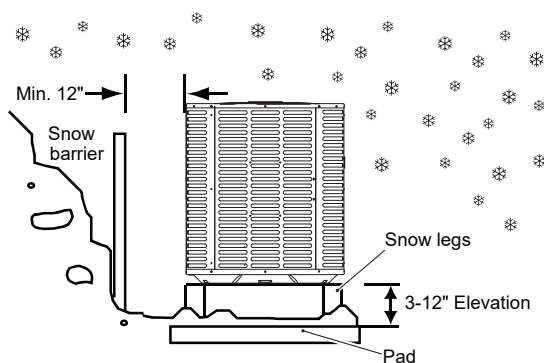

Figure 2-4
- Units should be elevated 3-12 inches above the pad or rooftop, depending on local weather. This additional height will allow drainage of snow and ice melted during defrost cycle prior to its refreezing. Ensure that drain holes in unit base pan are not obstructed, preventing drainage of defrost water (Fig. 2-4).